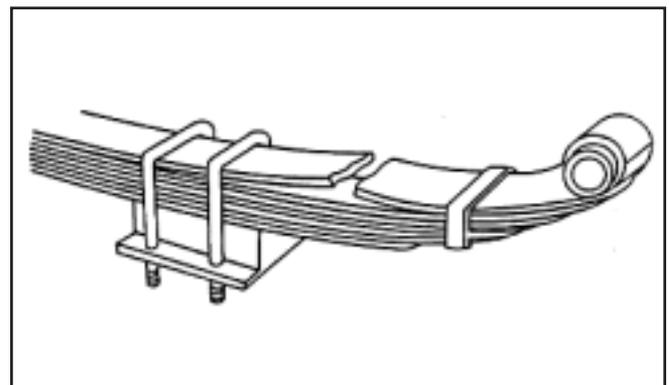

Figure 2-3
- Missing or broken leaves in any leaf spring. If one fourth or more are missing, it will put the vehicle "out-of-service" but any defect could be dangerous (Figure 2-3).